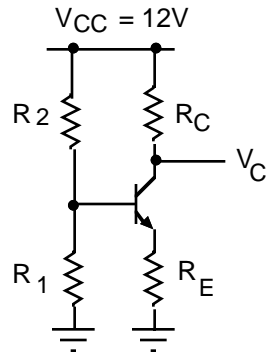

Fig 5.4
- Design a voltage divider biased circuit (Fig 5.4) with the following specifications:  $V_{CC} = 12\text{ V}$ ,  $I_C = 2\text{ mA}$ ,  $V_C = 7.5\text{ V}$  and  $V_E = 1\text{ V}$ . Build your circuit. Compare calculated and measured values  $V_{BB}$ ,  $V_E$  and  $V_C$  for both of your transistors.